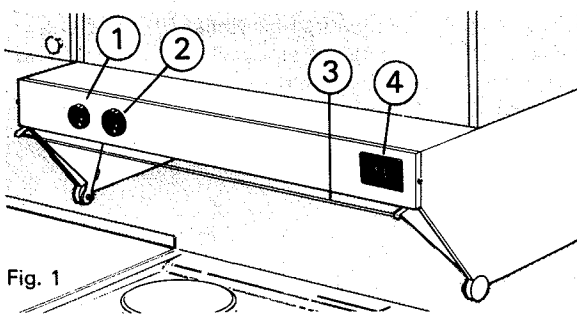

Fig. 1
**Removing the throttling device:** Remove the grease filter and then the throttling device by releasing the wing screw (Fig. 1).
**Refitting:** Place the throttling device so that the sheet metal edge is pushed into the mounting angle (2) in the top of the cooker hood and that the bent spindle of the device enters into the groove of the knob (3). Tighten the wing screw.